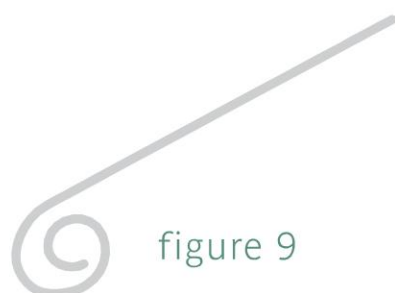

figure 9
- 3 Use nylon-jaw pliers to grasp the loop just made. Roll the wire around the initial loop until it reaches the loop's top (Figure 9). **NOTE:** This step can be done with chain- or flat-nose pliers, but nylon-jaw pliers won't mar the wire.